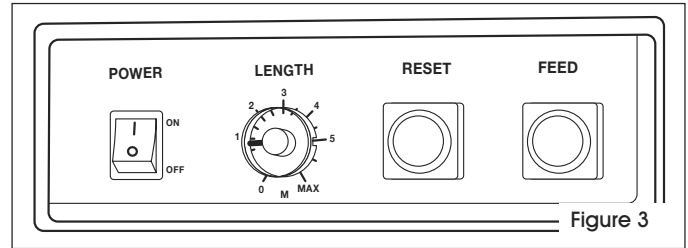

Figure 3
1. Set strap feed length: Determine the length of strap needed. Set control for 0-6. Lengths listed in meters. 1 = 3 ft. of strap. Example: for 6 ft. of strapping, set the control at "2". (See Figure 3)
2. Turn power ON. Allow machine to heat up 3-4 minutes. Strap won't seal if heating blade is not hot enough. (See Figure 3)
3. Pre-feed the strap: Press and hold the FEED button until the desired length of strap feeds out. (See Figure 3)
Strap jams while cutting and sealing.	Check if strap can be pulled out of the right side door. (See Figure 1) 1. Turn power OFF and open top cover. Check if strap is jammed between press bar and front bar. (See Figure 2) 2. If strap is jammed between press bar and front bar: a. Slide LS1 plate towards rear of machine until the plate and separator come off. b. Lift heater off the two screws. c. Lift springs from press bar, front bar and rear bar post. Lift out bars. d. Wipe down bars and square holes. e. Lubricate bars with light lubrication, such as WD-40®, and reinsert bars. f. Reattach springs to post. Put heater, LS1 plate and separator back on, ensuring LS1 arm is put in separator slot. g. Ensure the groove on the bottom right side of the LS1 plate is positioned so the tip of the front bar goes into the groove when it is raised up. (See Figure 3)